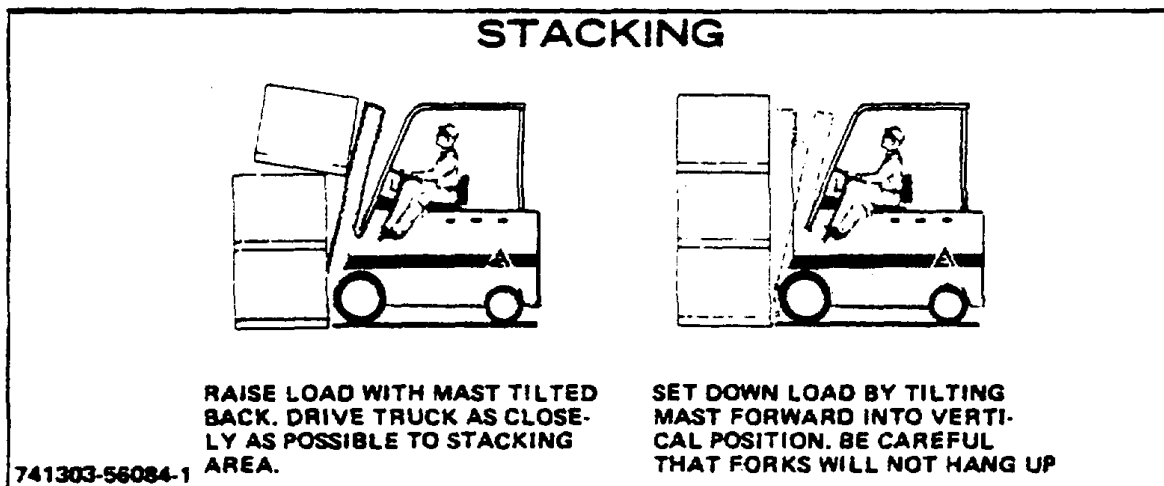

Figure 3-14. Stacking and Unloading
- (1) Slowly maneuver the lift truck to the deposit area with the load. Position the truck squarely in front of the stack.
- (2) Check the low hanging obstructions. Raise the load to the proper height to clear the stockpile with the mast tilted slightly back (Fig. 3-14).
- (3) With the load elevated, slowly and carefully move the lift truck to position the load squarely over the stockpile. Tilt the mast forward to the vertical position and lower the load onto the stockpile until the forks are halfway between the upper and lower members of the pallet